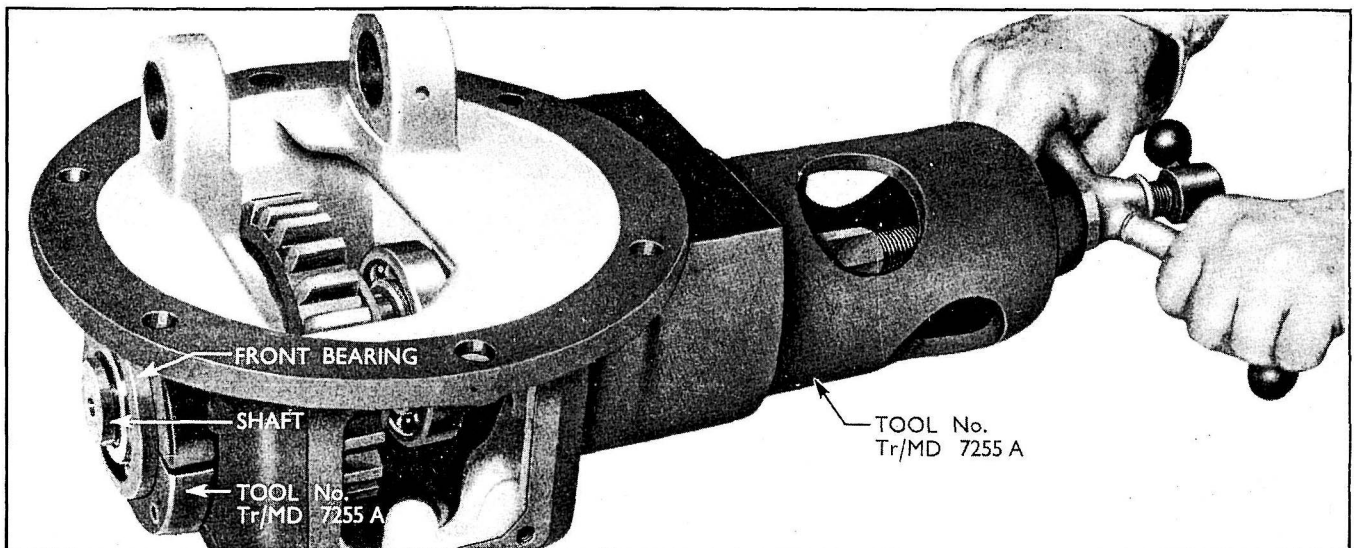

Fig. 272
- 2 Detach the front bearing end plate (four bolts). Support the power take-off gear and tap the shaft into the housing from the rear to expose the front bearing. Remove the shaft circlip. Fit the two adaptors (Tr/MD.7255-A) behind the front bearing so that the four spring-loaded plungers locate in the end plate bolt holes. Next position the screw adaptor on the end of the centre bolt of the power take-off shaft remover (Tr/MD.7255-A) and screw it into the end of the shaft. Tighten up the wing nut to push the front bearing off the shaft and withdraw the shaft rear bearing and oil seals. (See Fig. 272.)